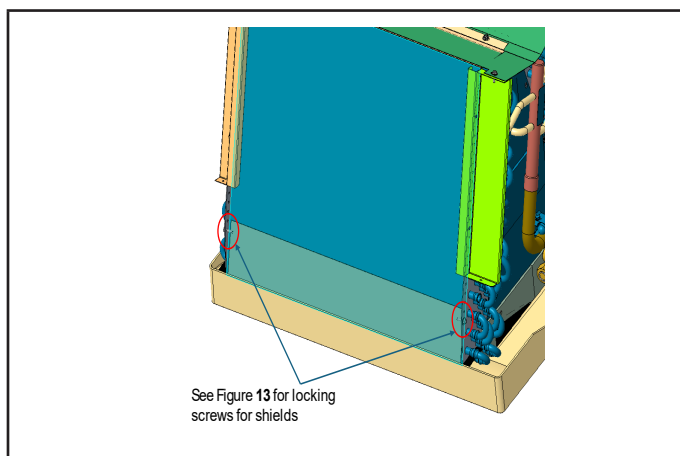
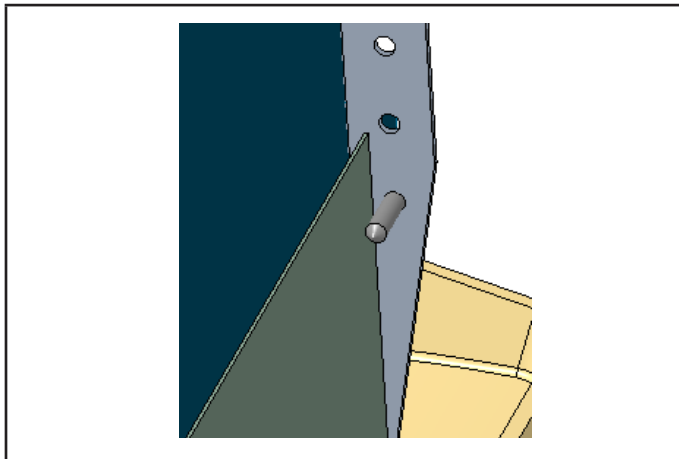

FIGURE 14.
FIGURE 15.
- 2 - Slide provided shields (part D, two each) behind the return bend and hairpin shields, then slide further down to rest on drain pan (FIGURE 13, FIGURE 14 and FIGURE 15).
- 3 - After Installing the provided slab shields (part D, two each) using provided four #8-18 X 1/2" screws (part J) to lock the movement of shield See FIGURE 14